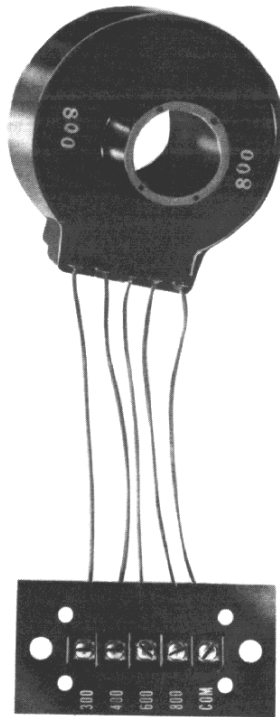

Fig. 18. SST phase sensor with tap board
Current Sensors - each pole mounts a single sensor coil (CT) which supplies the power and signal inputs necessary to operate the trip system. Each sensor has four taps which provide field adjustment of the trip device's continuous ampere rating. See Fig. 18.